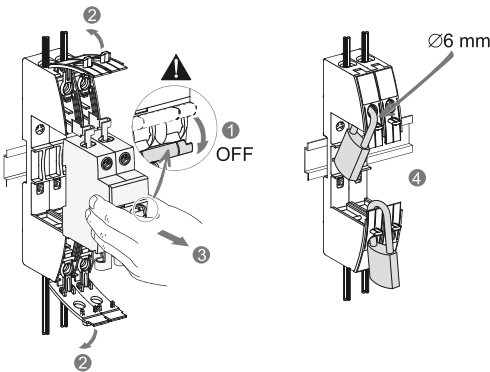

Рисунок 6 – Демонтаж автоматического выключателя / Figure 6 – Dismantling a circuit-breaker
- Dismantling of the circuit-breaker and sealing of the module is carried out according to the algorithm shown in figure 6.
- it is necessary to turn the circuit-breaker to the "Off" position, item 1 in figure 6;
- then open the protective covers until they are fixed, item 2 in figure 6;
- then dismantle the circuit-breaker from the module, item 3 in figure 6;
- then the padlock is to be mounted. When mounting the padlock, the protective covers should be lowered, item 4 in figure 6 (the diameter of the hole for mounting the padlock is 6 mm).